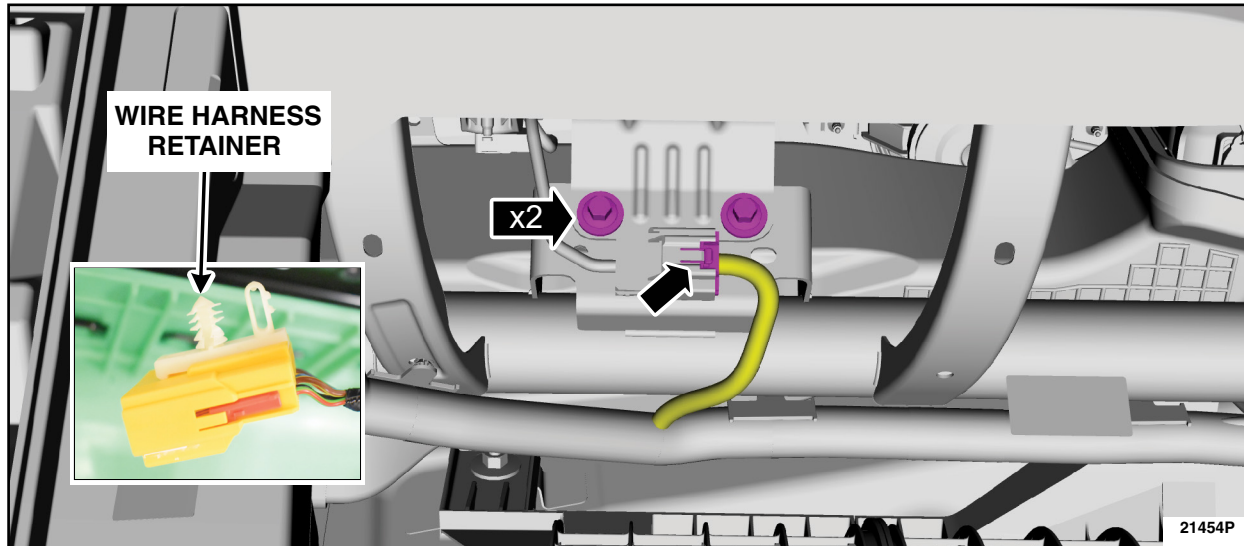

FIGURE 14
14. Disengage the wire harness retainer, disconnect the electrical connector and remove the lower passenger side air bag bracket bolts. See Figure 14.